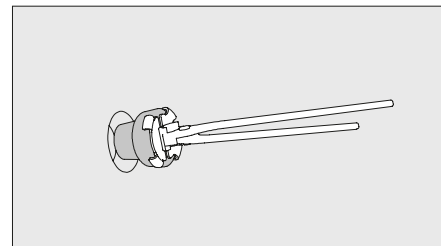

Fig. A5.17
2. Close the tie hole with a suitable cone, e.g. PERI Concrete Cones. (Fig. A5.17)